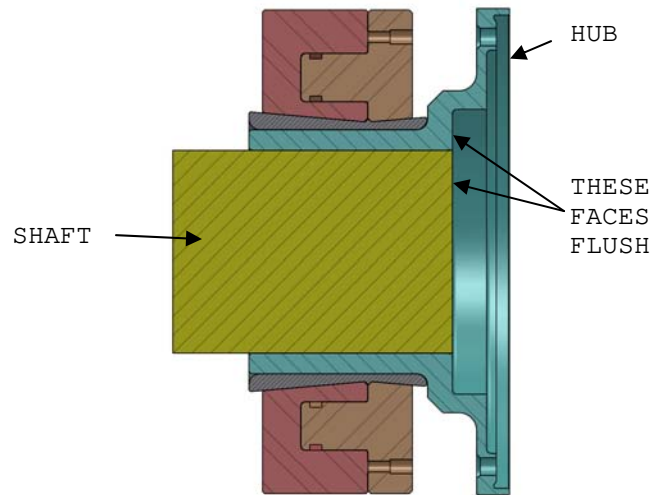

Figure 3a. Shaft Assembly Cross-section, Compressor End
2.4.1 Gently slide the hub onto the shaft until the face of the shaft is flush with the face of the flange as in Figures 3a and 3b..